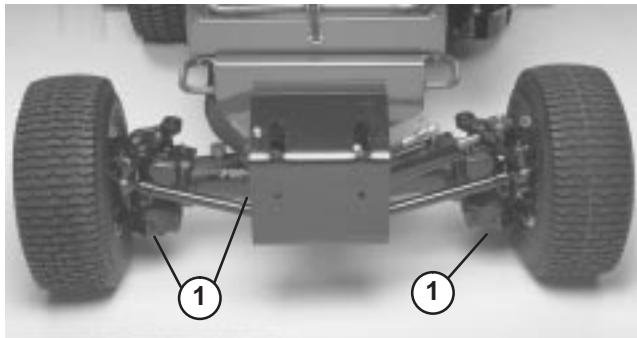

Figure 72
2. Clean area around the drain plugs (Fig. 72).